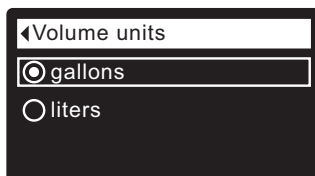

FIG. 113
5. Press the SELECT (O) button to display the Volume units menu (See Figure 113).
6. If the desired volume unit already has a dot next to it (See Figure 113), go to Step 7. Otherwise, press the DOWN (▼) or UP (▲) buttons to scroll to the other volume unit, then press SELECT (O) to choose it.
7. Press the SELECT (O) button. The display will go back to the User preferences menu.